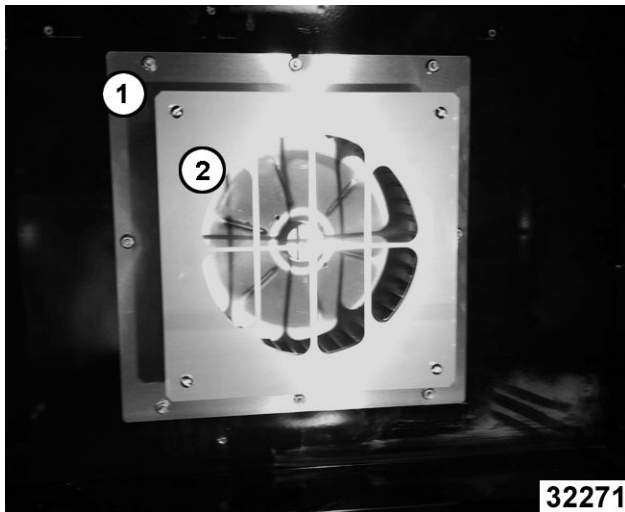

Fig. 39
7. Remove blower baffle screws (2, Fig. 39) if applicable.
8. Remove motor mounting plate nuts (1, Fig. 39).